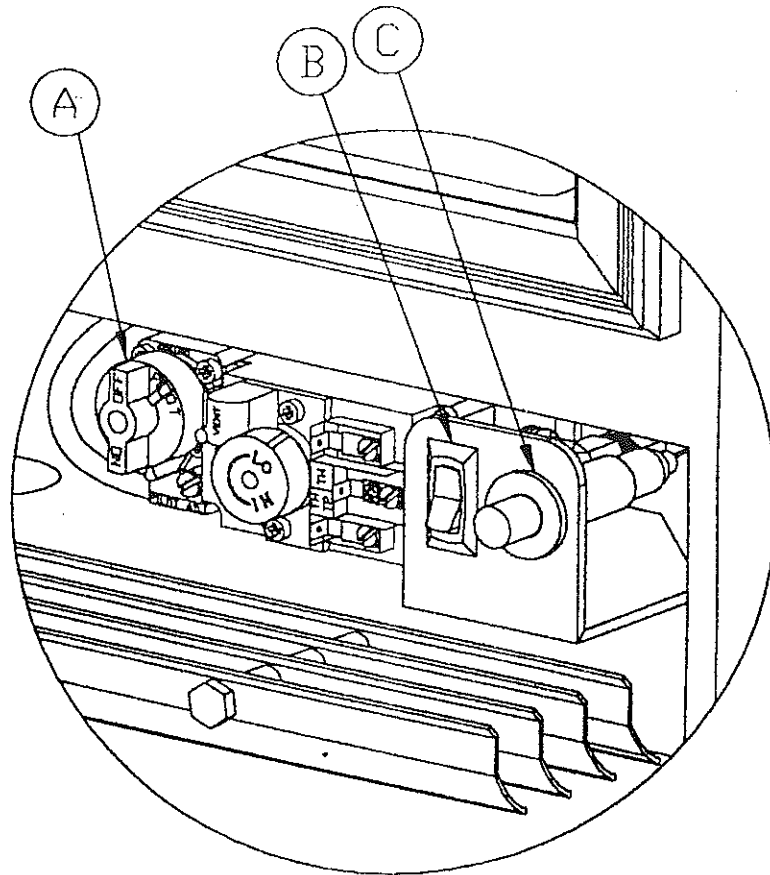

FIG. 7
G) LIGHTING AND SHUTDOWN. See Figure 7.